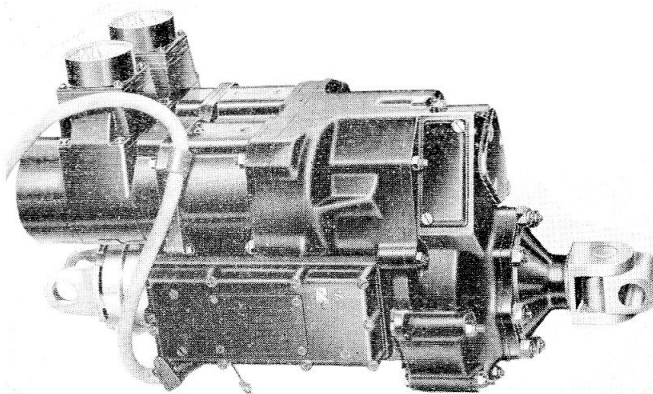

Fig. 1. General view of actuator, Type AE4024, Mk. 1
1. The linear actuator, Type AE4024 (fig. 1), has been designed to provide variation in the angle of incidence of the tailplane under all conditions of flight. It is a single speed actuator, capable of operating under a normal load of 3000 lb. Acting as a strut in the airframe, it can withstand loads of up to 27000 lb both in tension and compression.